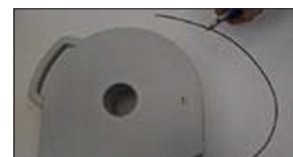

Fig. 34
5. Cut 50mm (1.5”) from the end of the filament. (Fig. 34)